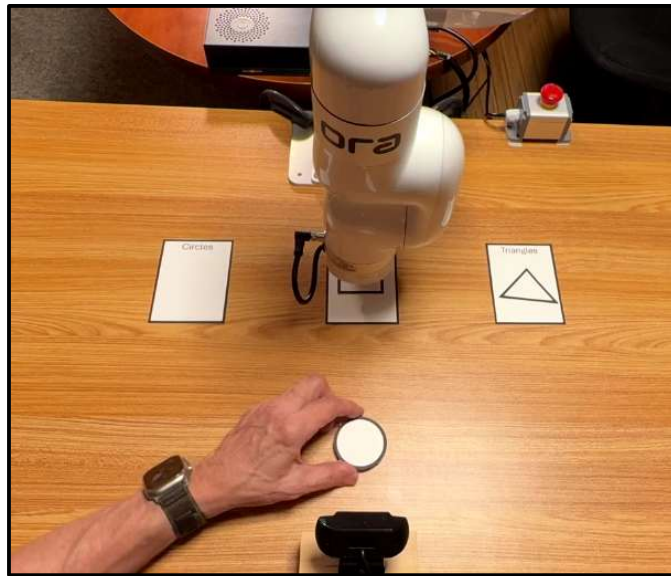

Figure 1
Figure 1 is a snapshot taken after ORA has dropped a triangle onto its "bin" and is about to drop a rectangle onto the rectangle bin. Meanwhile, a circle is being placed at the shape pickup location.
2. Make sure that the **Emergency Stop Button**, also shown in the upper-right side of Figure 1, is within easy reach. It might even be a good idea to have one student with his or her hand above the button when the program is started, in the event that it becomes necessary to instantly terminate all motion of ORA's arm and cancel any commands.